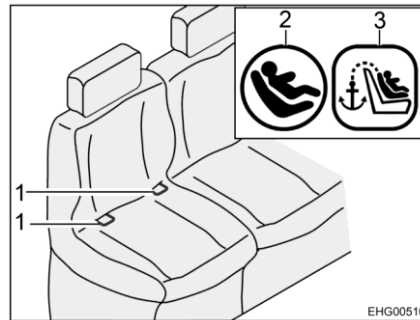
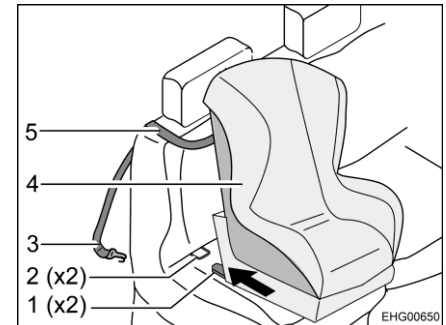

Fig. 10 Seat with ISOFIX
Fig. 11 Fastening with top tether
- Guide the top tether strap (Fig. 11,5) over the back cushion (between the headrest and the seat belt deflector).
- Hook the fixing hook (Fig. 11,3) onto the attachment point on the back of the vehicle seat.
- Have the connectors (Fig. 11,1) snap into the retaining clips (Fig. 10,1 and Fig. 11,2). While doing this, a distinctive click must be heard.
- With a strong jerk, check if the child seat (Fig. 11,4) is firmly connected.